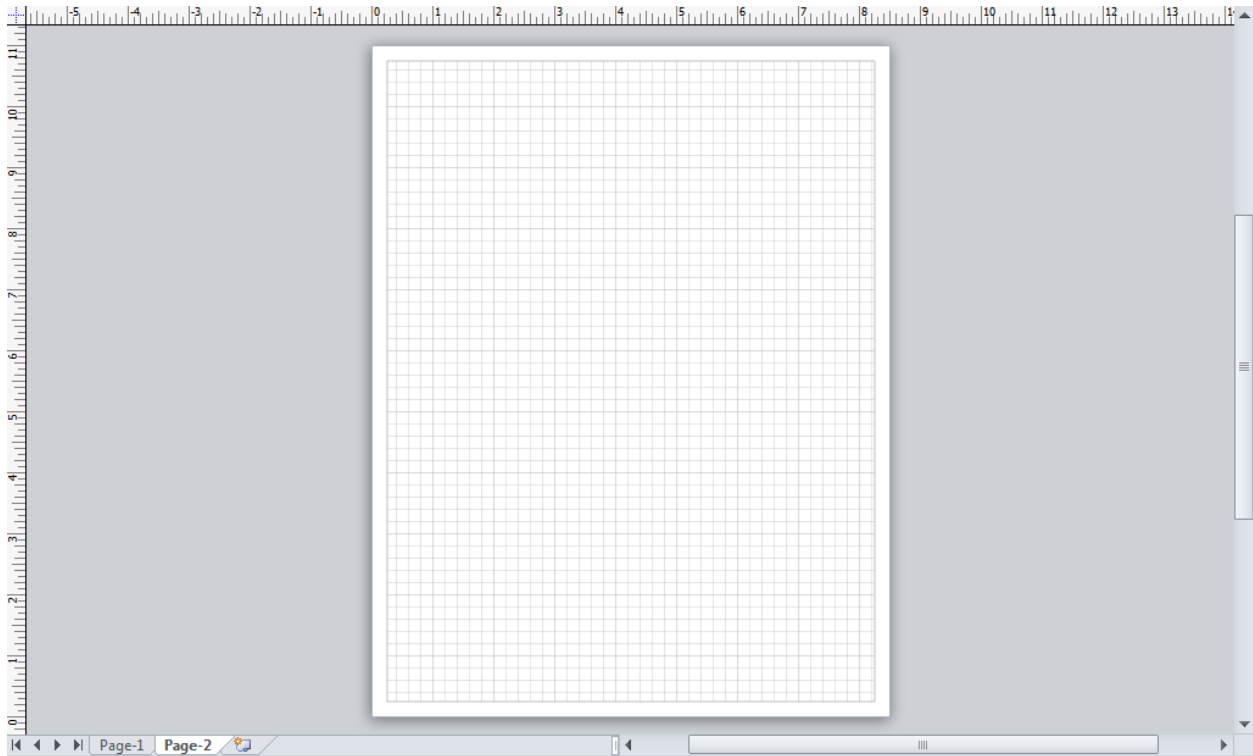

Figure 53: Blank Drawing Area Showing Two Pages
- You will see a blank drawing area with tabs for each page as shown in Figure 53. The current page is **Page-2**. If you click the tab for **Page-1**, you will see the diagram that you created in Section 5.1.